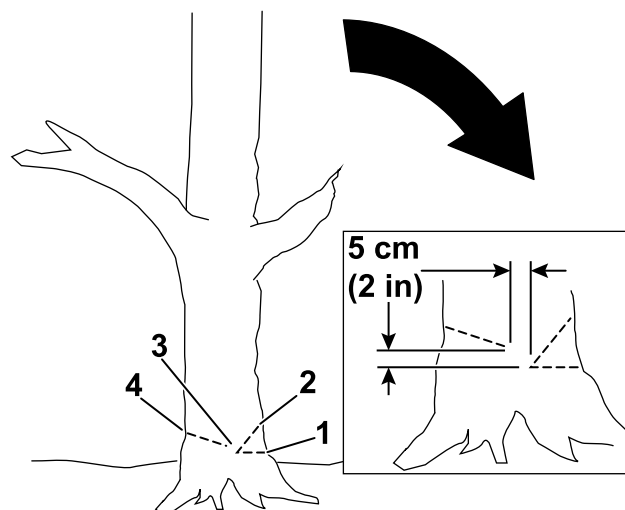

Figure 18
4. Make the first cut a third of the way through the tree diameter on the side where you want the tree to fall (Figure 18).
5. Make a second cut to form a notch, starting the cut at least 5 cm (2 inches) above and away from the first cut (Figure 18).
6. Make the back cut from the opposite side of the notch and about 5 cm (2 inches) higher than the bottom of the notch as shown in Figure 18.
**Important:** Stop the third cut 2.5 to 5.0 cm (1 to 2 inches) from the notch to form a hinge between the cuts (Figure 18), which keeps the tree from falling in the wrong direction or twisting as it falls.
**Note:** As the back cut nears the hinge (Figure 18), the tree should begin to fall.